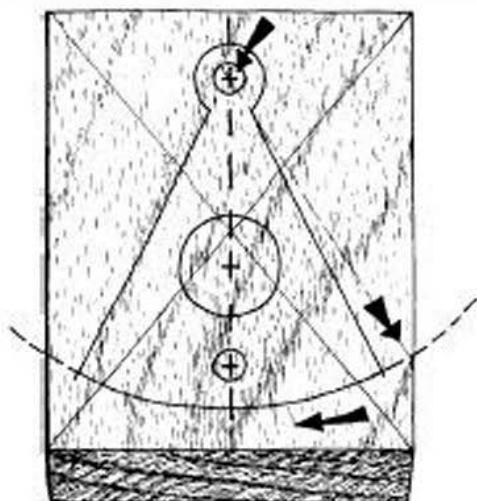

FIGURE 2-9
- 6** With all the lines and center points in place, and having carefully checked for accuracy, drill the three holes on the drill press— $\frac{1}{4}$ " diameter for the two pivot holes and $\frac{3}{4}$ " diameter for the finger hole (Fig 2-9). Lastly, cut out the profile on the scroll saw.